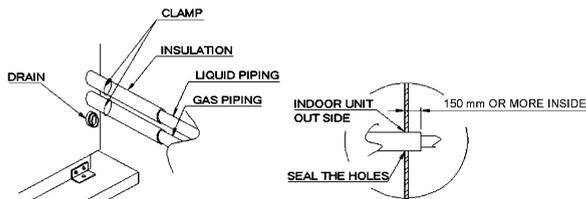

FIG 5
- After brazing the pipes use the insulation to secure the pipe inside of the unit (FIG.5). Install the insulation as close to the body as possible to absorb leaking condensation.